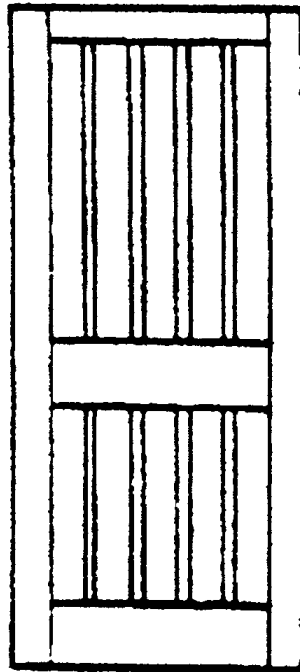

Fig.4
6. The following information is extracted from a contract specification related to the manufacture of 50 hardwood doors, each of which is to have 10 panes of safety glass as shown in figure 4.